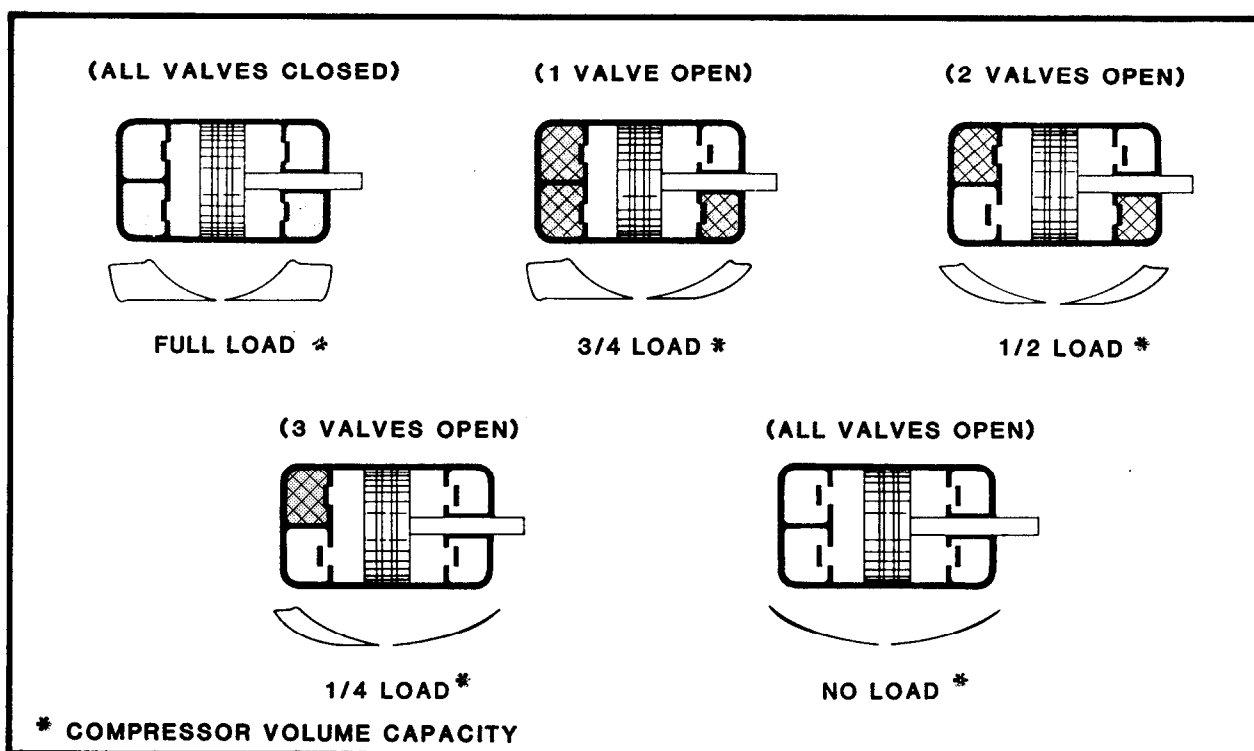

FIGURE 5-6. Five-Step Clearance Control
1.1.1.2 **Clearance Pockets.** Another method of unloading a compressor is by the use of clearance pockets built into the cylinder. Normal clearance is the volume at the end of the piston and under the valves when the piston is at the top of the compression stroke. Each end of the cylinder is fitted with two clearance pockets which are connected with, but cut off from, the cylinder by air-operated clearance valves. Each clearance pocket can hold one-quarter of the air compressed by the cylinder in one stroke. When both pockets at one end of the cylinder are open, no air is taken into that end of the cylinder. The clearance valves are separate from, and work independently of, the main compressor valves. They are similar to the regular inlet valves but have an air-operated lifting yoke which operates in the same manner as the inlet valve unloader described in paragraph 1.1.1.1. Figure 5-6 illustrates the operation of the clearance pockets and the corresponding indicator diagrams of an air compressor under five-step clearance control.